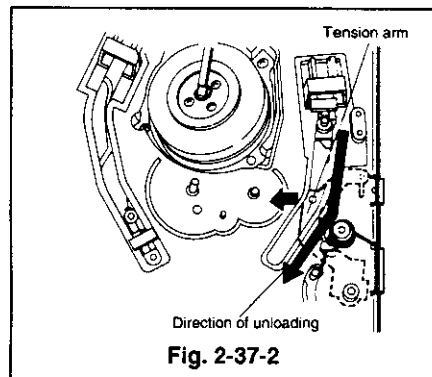

Fig. 2-37-2
- ① Move the takeup and supply tape guides to the unloaded position. If the supply tape guide is in the loaded position it will be necessary to shift the tension arm in the direction of the arrow in Fig. 2-37-2 at the same time moving the supply tape guide to the unloading position.